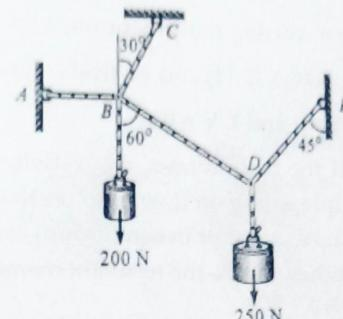

Fig 2.21
- 1) A system of connected flexible cables shown in fig 2.21 is supporting two vertical forces 200 N and 250 N at points B and D. Determine the forces in various segments of the cable. (Ans: $T_{DE} = 224.14 \text{ N}$, $T_{BD} = T_{BC} = 183.01 \text{ N}$, 336.6 N , $T_{AB}=326.79 \text{ N}$)